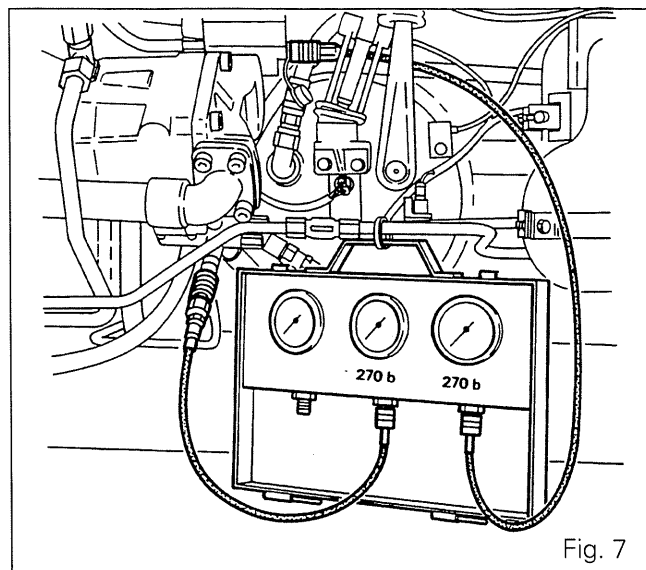

Fig. 7
- Connect a pressure gauge to each diagnostic connector (Fig. 7) located: